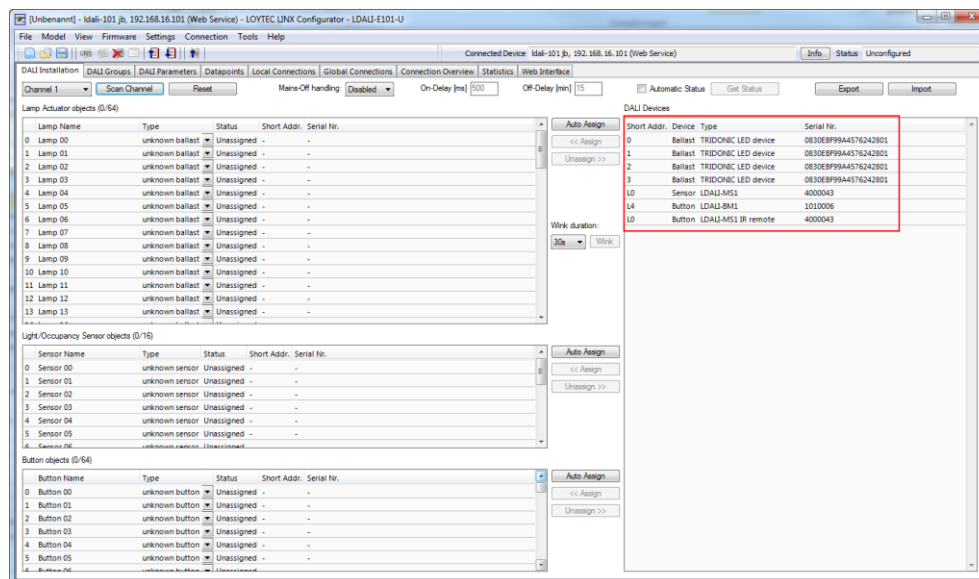

Figure 27: LINX Configurator software, detected DALI devices.
- The L-DALI device scans the selected channel and displays all detected devices as shown in Figure 27. In case an error occurs see the LOYTEC Device User Manual [1] for a description of the error codes and possible reasons.